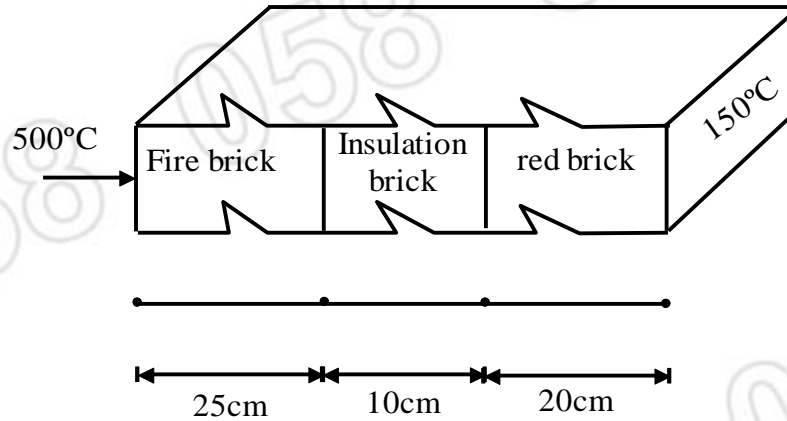

Fig. 7 (a)
7. a) The furnace wall shown in fig. 7 (a) consists of 25 cm of fire brick [$K_1 = 0.012 \text{ W}/(\text{cm}^\circ\text{C})$], 10 cm of insulation brick [$K_2 = 0.0014 \text{ W}/(\text{cm}^\circ\text{C})$] and 20 cm of red brick [$K_3 = 0.0086 \text{ W}/(\text{cm}^\circ\text{C})$]. 16